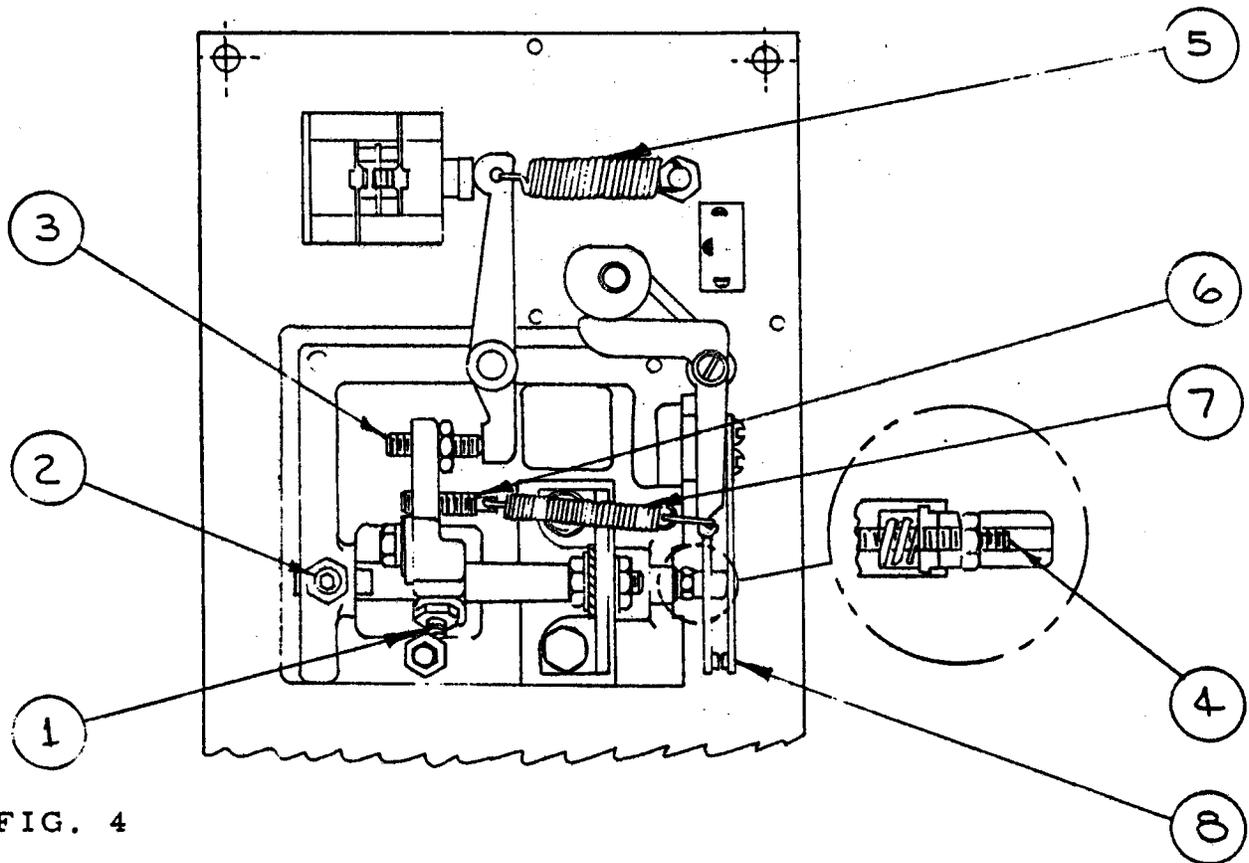

FIG. 4
4. Verify the proper setting of the slide rod stop screw (Item 2, Fig. 4). It is adjusted to maintain 1/4 turn clearance between the end of the stop screw and the milled flat on the slide rod. The movable jaw must move freely with both tilt adjustments bearing on the jaw.
1. Loosen the lockscrew (Item 1, Fig. 4) that holds the movable jaw to the slide rod.
3. Push the slide rod toward the fixed jaw until the shoulder of its milled flat contacts the slide rod stop screw (Item 2, Fig. 4).
4. Tighten the lockscrew (Item 1, Fig. 4) and lock the jam nut on it.
3. Turn the adjustment screw (Item 4, Fig. 4) as required to just break the circuit with .140" gap. (CW reduces the gap; CCW increases the gap.)
The upset force shall be from 10 to 12 lbs. when measured at the movable jaw with the upset force selector set for the narrowest width band. The approximate locations of the upset force adjustment screw (Item 6, Fig. 4) is with the back end of the screw flush with the cast jaw surface. The final adjustment is made in the following manner:
1. Disconnect the weld lever return spring (Item 5, Fig. 4.)
7. If the spring scale reading at this point does not fall in the required range (10 to 12 lbs.) the upset force adjustment screw must be reset, (Item 6, Fig. 4.)
8. To re-set the screw, disconnect the jaw upset spring (Item 7, Fig. 4) and turn the screw, as required.
With the weld lever in the anneal position, (as located by the detent of the drag spring) and the upset force selector in its widest position, turn the jaw gap adjustment screw (item 3, Fig. 4) to obtain 15/32" jaw gap. Lock the adjustment in place.